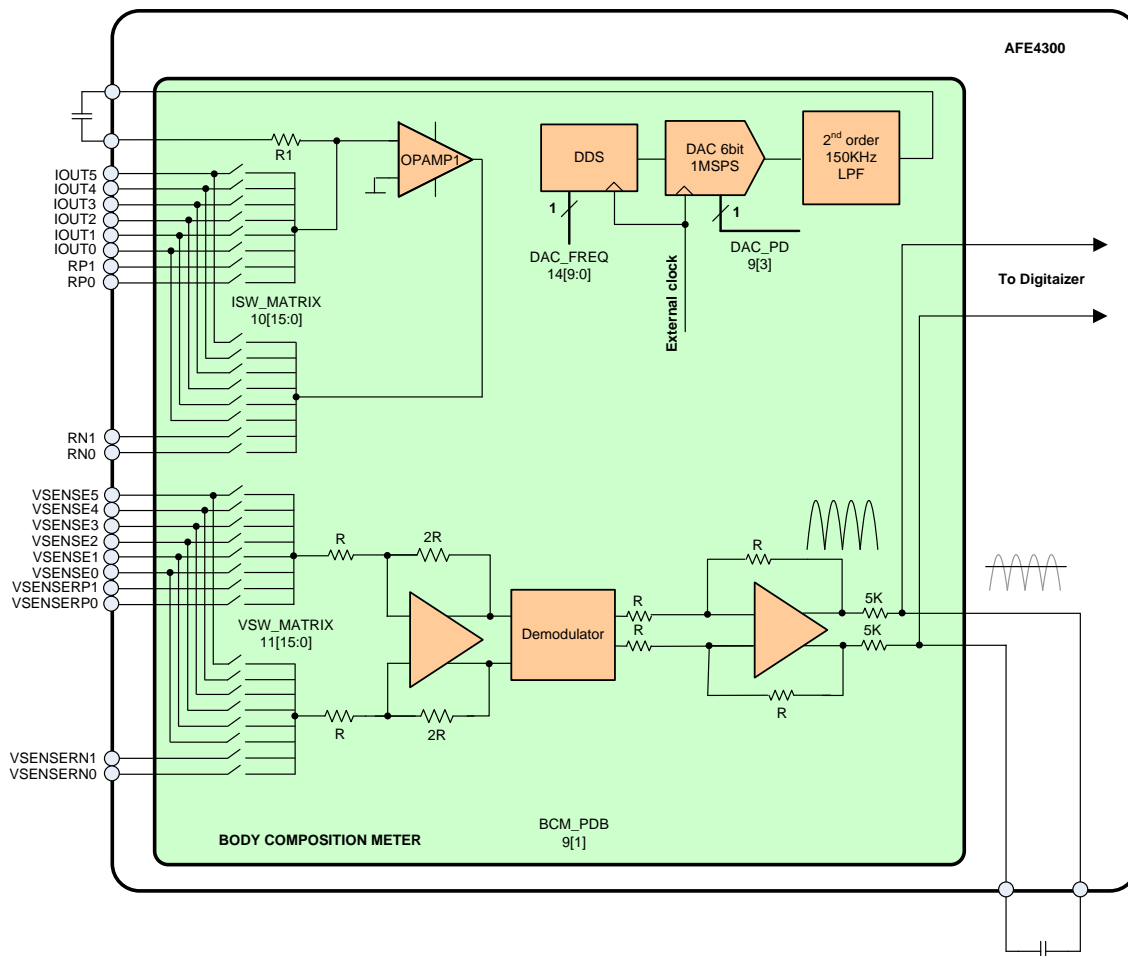
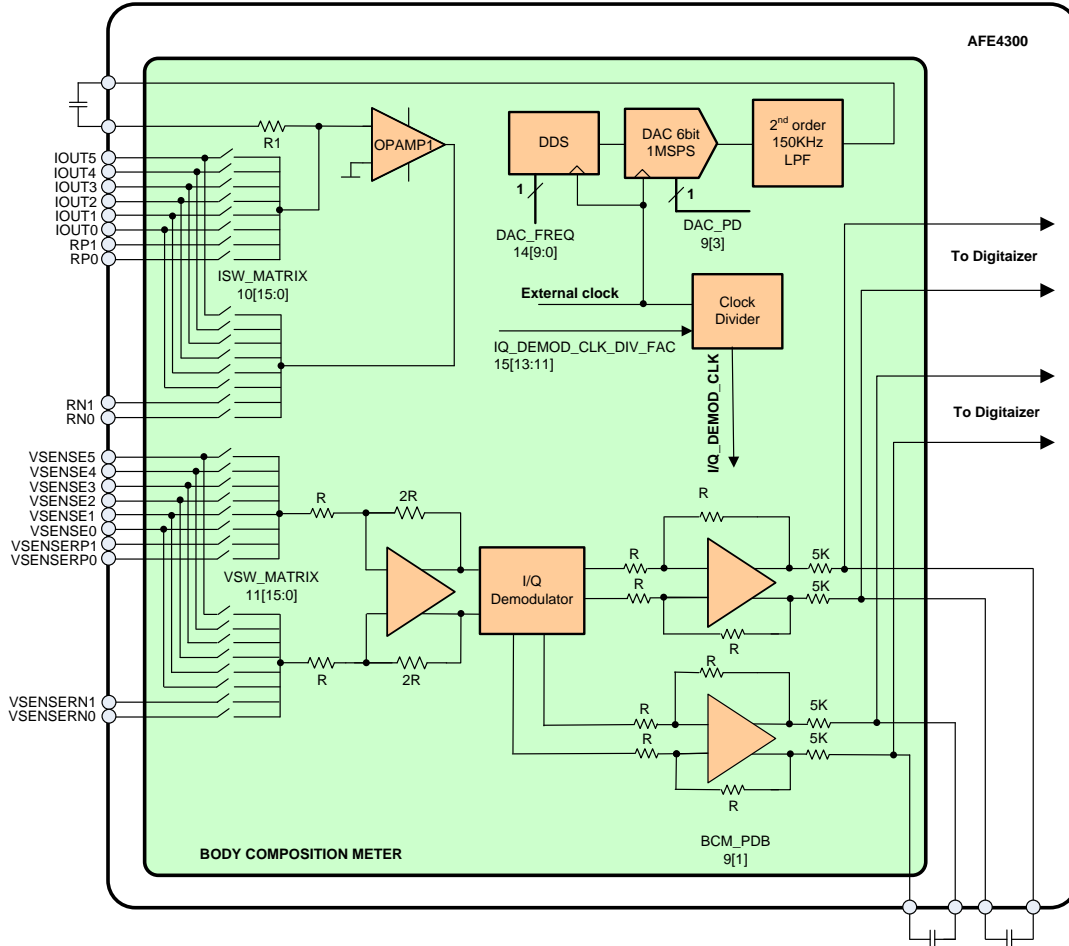

Figure 8. BCM in AC Rectifier Mode
Figure 9. BCM in I/Q Demodulator Mode
Figure 8 shows the portion of the AFE4300 devoted to body composition measurement in the RMS detector mode.
The top portion of Figure 8 represents the current-injection circuit. A direct digital synthesizer (DDS) generates a sinusoidal digital pattern with a frequency obtained by dividing a 1-MHz clock with a 10-bit counter. The digital pattern drives a 6-bit, 1-MSPS DAC. The output of the DAC is filtered by a 150-kHz, second-order filter to remove the images, followed by a series external capacitor to block the dc current and avoid any dc current injection into the body. The output of the filter (after the dc blocking capacitor) drives a resistor setting the amplitude of the current to be injected in the body, as shown in Equation 5:
The AFE4300 includes a second circuit that with a single frequency measurement, obtains both the real and the imaginary portions, as shown in Figure 9. As explained previously, the portion of the circuit injecting the current into the body is the same for both configurations. Therefore, the circuit is the same in Figure 8 and Figure 9. The difference between them is that an I/Q demodulator is used in this second approach, as shown in Figure 9.
The I/Q demodulator takes the $v(t)$ signal and outputs two dc values. These two values are used to extract the impedance module and phase with a single frequency measurement. Figure 9 shows the block diagram of the implementation. Using the I/Q demodulator helps reduce power consumption while yielding excellent performance. The local oscillator (LO) signals for the mixers are generated from the same clock driving the DDS/DAC and are of the same phase and frequency as the sinusoidal $i(t)$ (see Equation 5). The LO signals directly control the switches on the in-phase (I) path, and after a delay of 90° degrees, control the switches on the quadrature (Q) path. This switching results in multiplying the $v(t)$ signal by a square signal swinging from -1 to 1. Breaking down the LO signal into Fourier terms, we have Equation 9: